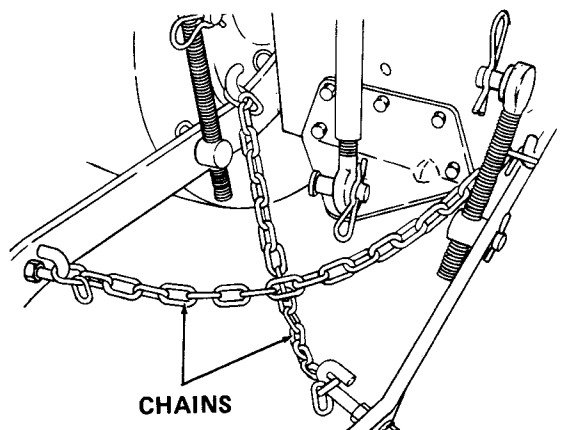

Figure B-24
12. Attach chains (T) to hooks on draft bar assemblies as shown in Figure B-24.